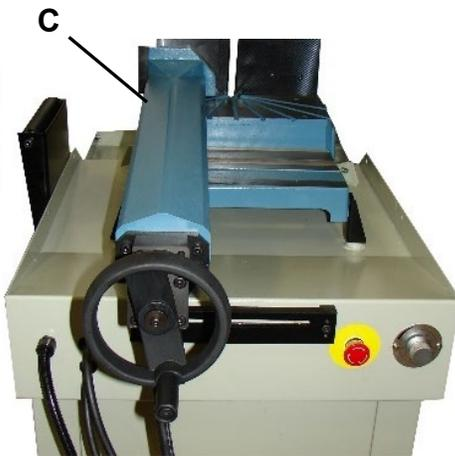
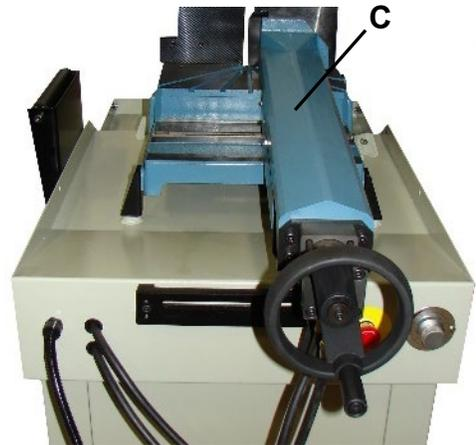

figure 5
figure 6
- Release the track support by turning handle (L) counterclockwise (ccw).
- Release the vise by moving the lock lever (I) to the left.
- The vise (C) may now be moved to the left position (figure 5) or the right position (figure 6) by pushing it with one hand on the vise and the other hand on the track handle (L).
- Once in position, move the lever (I) to the right to lock the vise.
- Lock the track support handle (L) by turning clockwise (cw).
**NOTICE:** Do not attempt a 90° cut with vise as shown in (fig. 6). You may damage the front jaw.